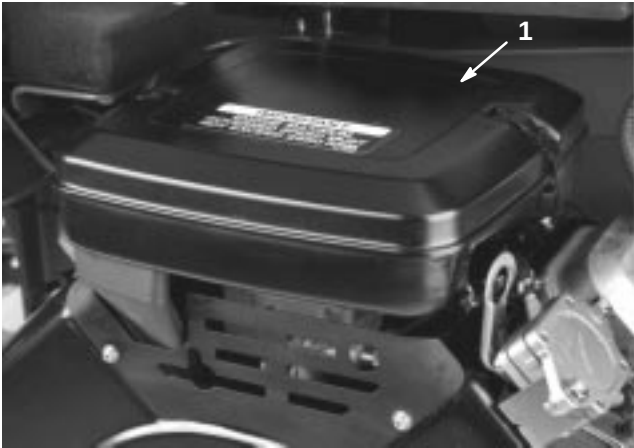

Figure 35
1. Release the locking clips and remove the air cleaner cover (Fig. 35). Clean the cover thoroughly.